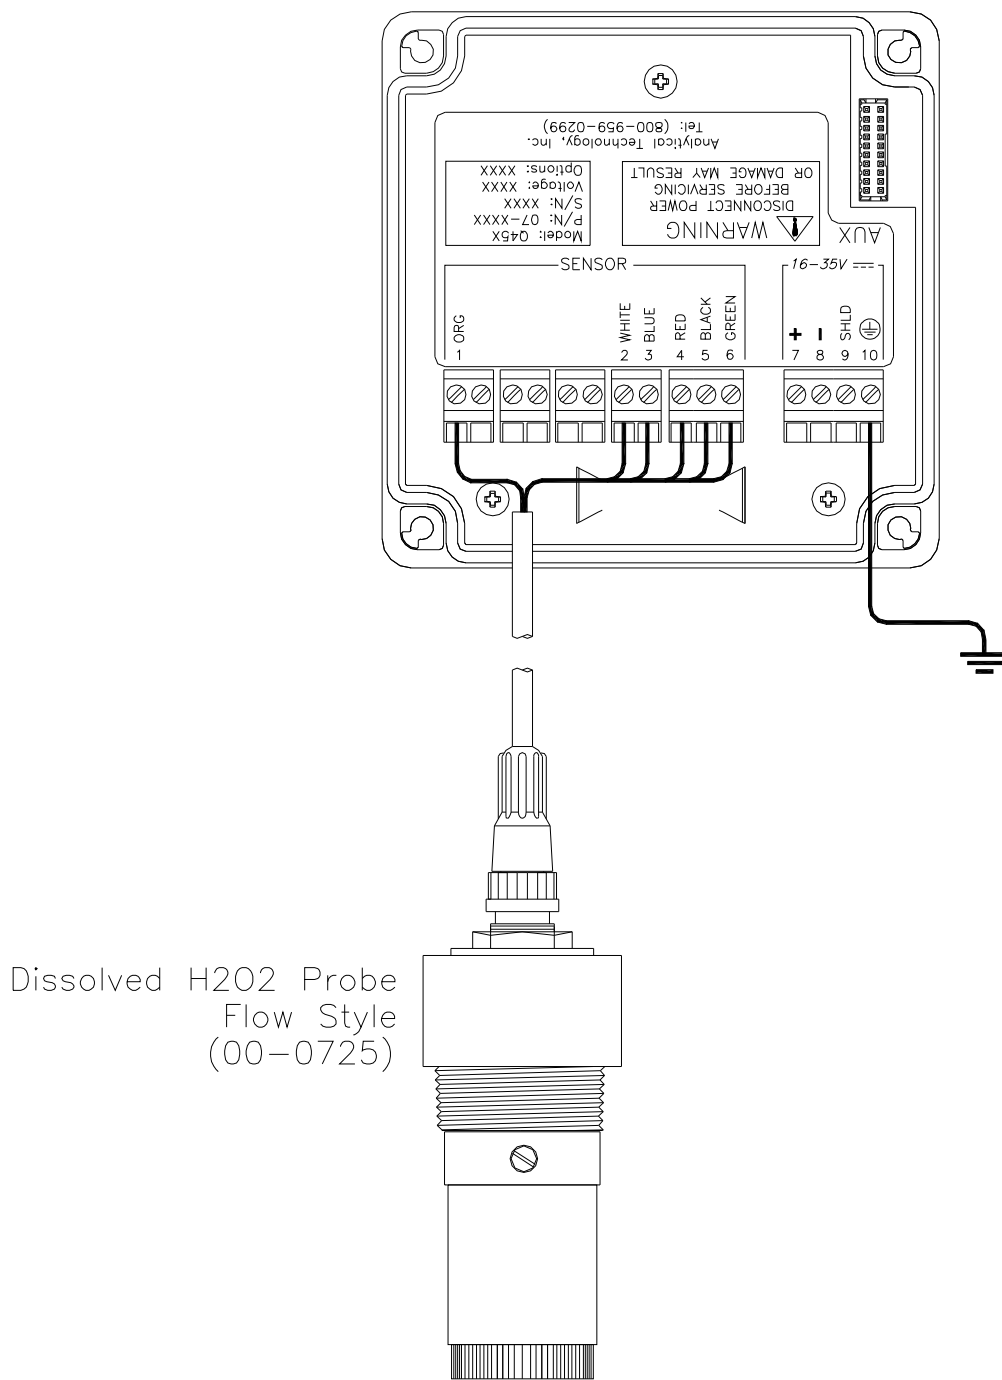

Figure 9 – Sensor Connection
1. Use wiring practices that conform to all national, state and local electrical codes. For proper safety as well as stable measuring performance, it is important that the earth ground connection be made to a solid ground point from terminal 12 (Figure 9).
Sensor connections are made in accordance with Figure 9. The sensor cable can be routed into the enclosure through one of cord-grips supplied with the unit. Routing sensor wiring through conduit is only recommended if a junction box is to be used. Some loose cable is needed near the installation point so that the sensor can be inserted and removed easily from the flowcell.